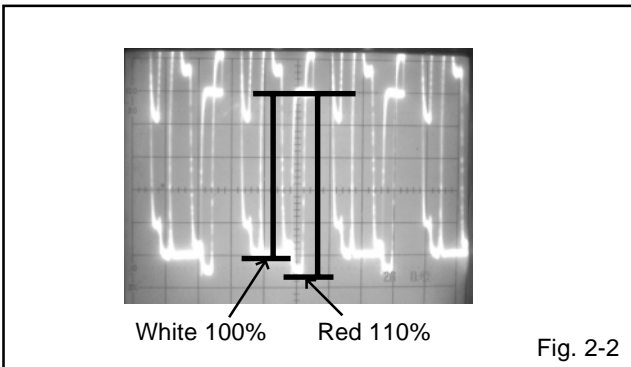

Fig. 2-2
7. Press the VOL. UP/DOWN button on the remote control until the red color level is adjusted to  $110 \pm 10\%$  of the white level. (**Refer to Fig. 2-2**)